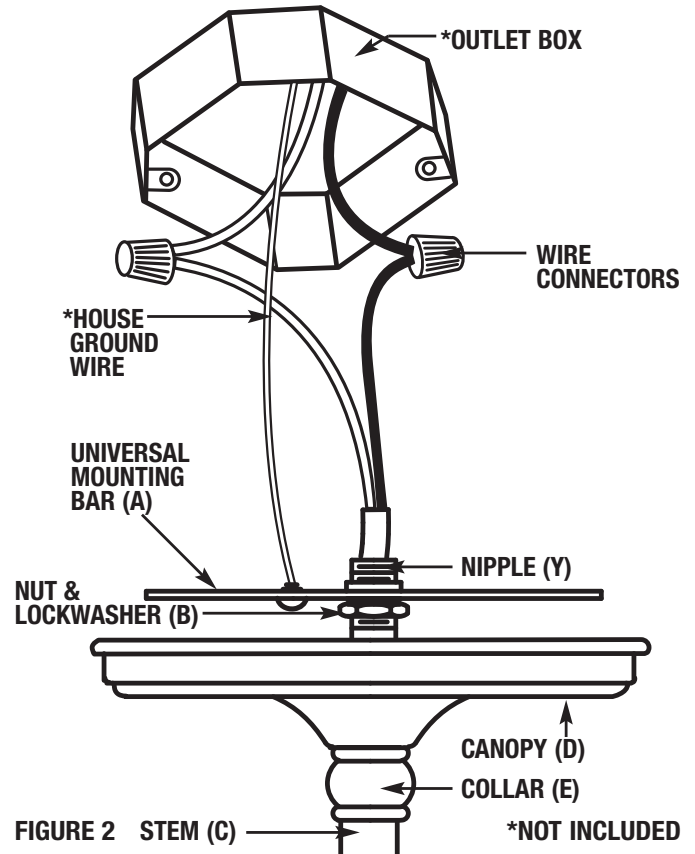

FIGURE 2 STEM (C) *NOT INCLUDED
POWER FEED INSTALLATION – FIGURE 2
2. In drywall, drill $\frac{5}{8}$ " hole at desired location for support adapter toggle bolt screw (M).
3. Insert toggle bolt screw (M) into mounting disc (G). Thread toggle bolt wing (Z) onto toggle bolt screw (M). Insert toggle bolt screw (M) and wing (Z) into drilled hole so mounting disc (G) is flush with the ceiling. **Note:** When applicable, use other securing method such as a wood screw (not supplied).
4. Thread support base (I) to mounting disc (G) tightly. Thread support stem (K) to mounting disc (G).
5. Raise rail up to power feed adapter (H) and rail support adapter (J). Close power feed adapter (H) and rail support adapter (J) over rail (refer to figure 2) and thread caps (F) back onto power feed adapter (H) and rail support adapter (J) to secure.